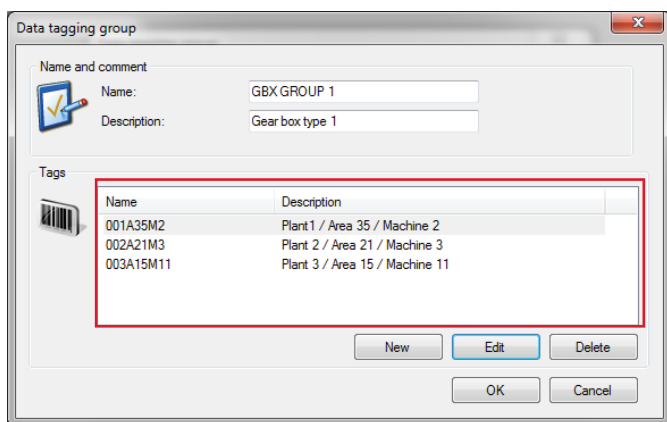

Fig. 6. Create as many tags as needed.
- Repeat the process for as many tags you need in all of the data tagging groups previously created (→ fig. 6).